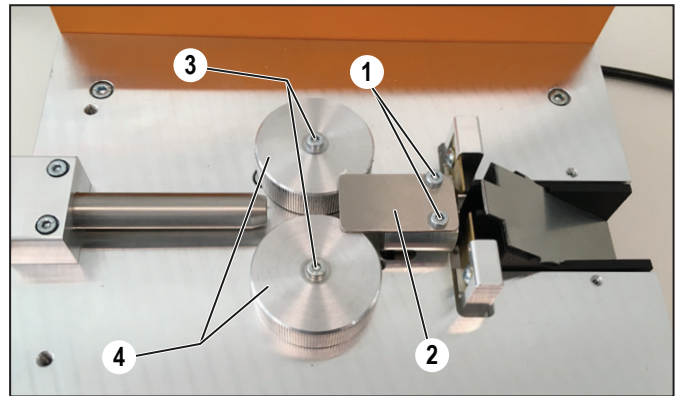

Figure 8.5 Renew feed rollers
- ▶ Remove the fixing screws (Figure 8.5, 1)
- ▶ Remove the cover plate (Figure 8.5, 2).
- ▶ Remove the fixing screws (Figure 8.5, 3)
- ▶ Remove the feed rollers (Figure 8.5, 4) and put on the new rollers.
- ▶ Refit the cover plate (Figure 8.5, 2).